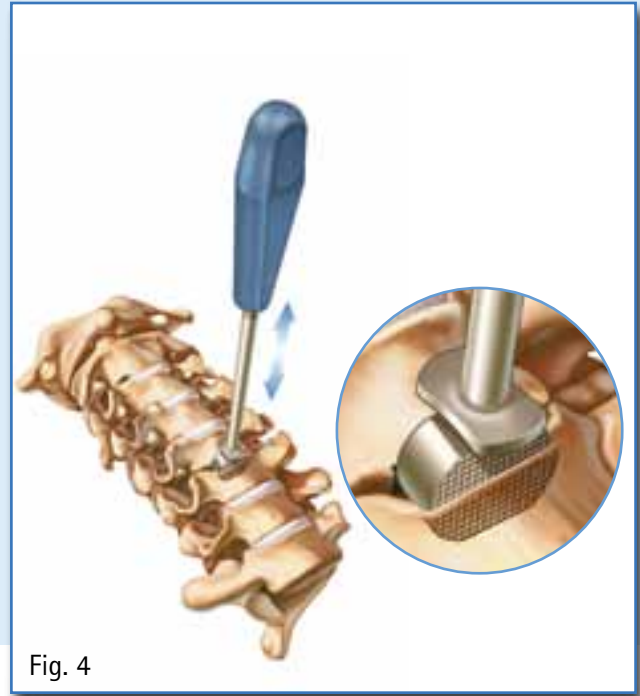

Fig. 4
- Prepare the endplates to receive the CeSpace™XP implant. (Fig. 4)